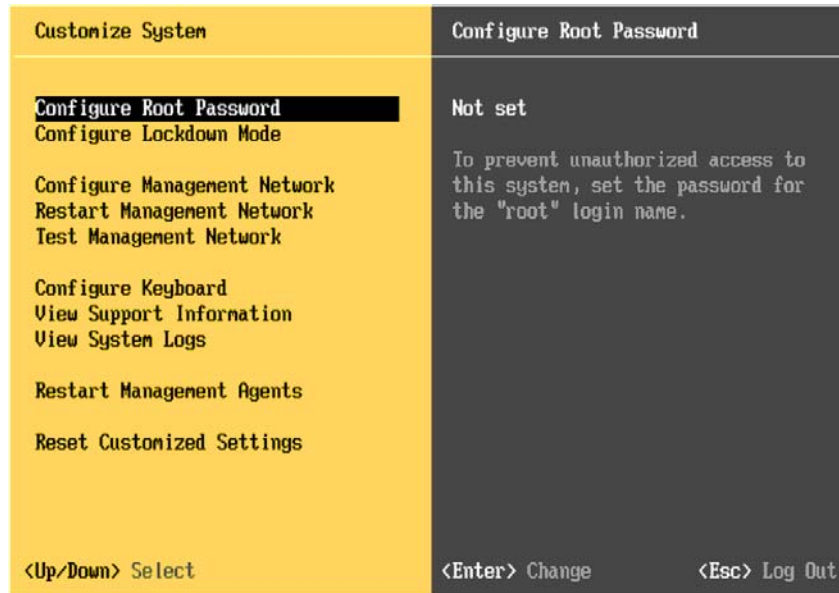

Figure 5-15 The Customize System menu when you press F2 at the DCUI ESXi interface
3. In the Customize System window, shown in Figure 5-15, change the default root password to a more secure password in accordance with your root/administrator password policies; select **Configure Root Password**.